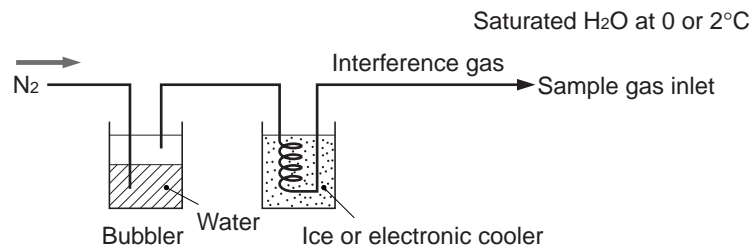

Fig. 5-5
- ① Select low range after warm-up operation. Feed zero gas (dry N_2) at the flow rate of 0.5L/min.
- ② Make an adjustment with VR6 and VR7 so that the output value becomes zero.
- ③ Feed moisture interference gas (saturated H_2O at 0 or 2°C) as shown in Fig. 5-5. If the output value exceeds $\pm 2\%$ of the full scale, make an adjustment with VR2 on the printed board of the amplifier section (interference compensating detector gain) so that the output value becomes zero.